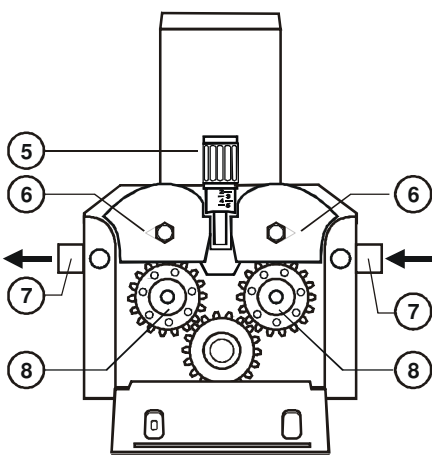
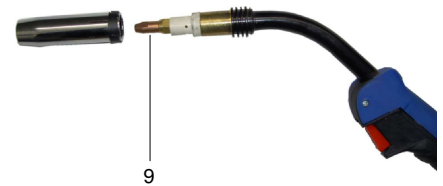

Fig.8 - 50W 4 roll motor
Fig.10 – Torch tip
- The wire feeder rolls (8-fig.8&9) and the tip of the torch (9-fig.10) must correspond to the wire diameter.
- The wire must be manually conducted a few centimetres through the rolls (8-fig.8&9) and the wire guide (7-fig.8&9). After this, close the traction levers (6-fig.8&9) verifying that the correct positioning of the wire on the roll end.
- Switch on the machine and press "wire inch" key button until the wire appears outside the torch tip (9-fig.10). If necessary, unscrew the tip torch and straight torch cable.